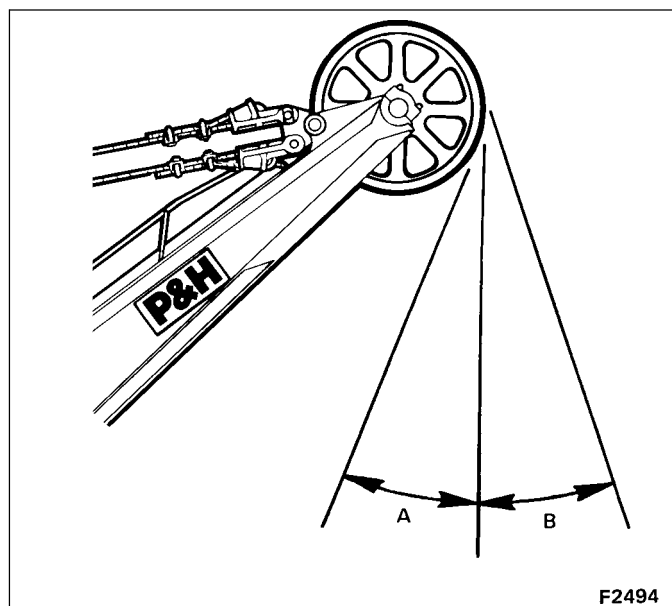

Figure 3-22. Stability Check
6. Compare the position of the dipper and hoist cables with those in Figure 3-22. If the position of the hoist cables and dipper are off any degree towards the machine, as shown by area "A" in Figure 3-22, or if less than 3/5ths of the rack has been crowded out, the mining shovel requires additional counterweight.